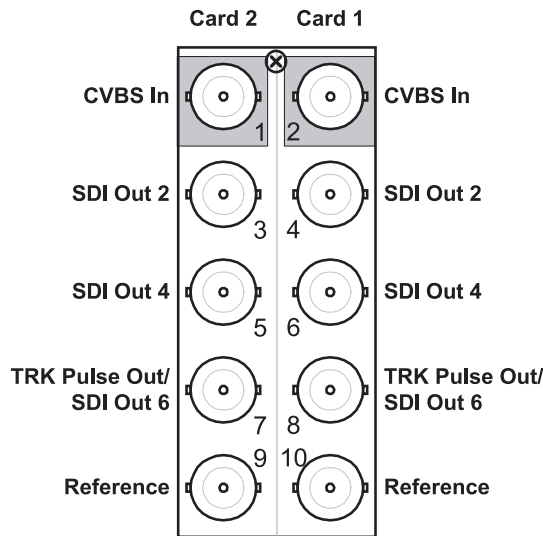

Figure 2.4 Cable Connections for the **R2S-8732** Rear Module
- **R2S-8732** Split Rear Module — Each card occupies one slot and provides two or three outputs. Note that each rear module provides connections for two cards. Cable your ADC-8732B according to **Figure 2.4**.
2. Connect downstream SD-SDI devices to BNCs 2 through 6, 8, and 10 (SD-SDI Out). If you are using the R2S-8732 Split Rear Module, connect to the required BNCs as indicated in **Figure 2.4**.